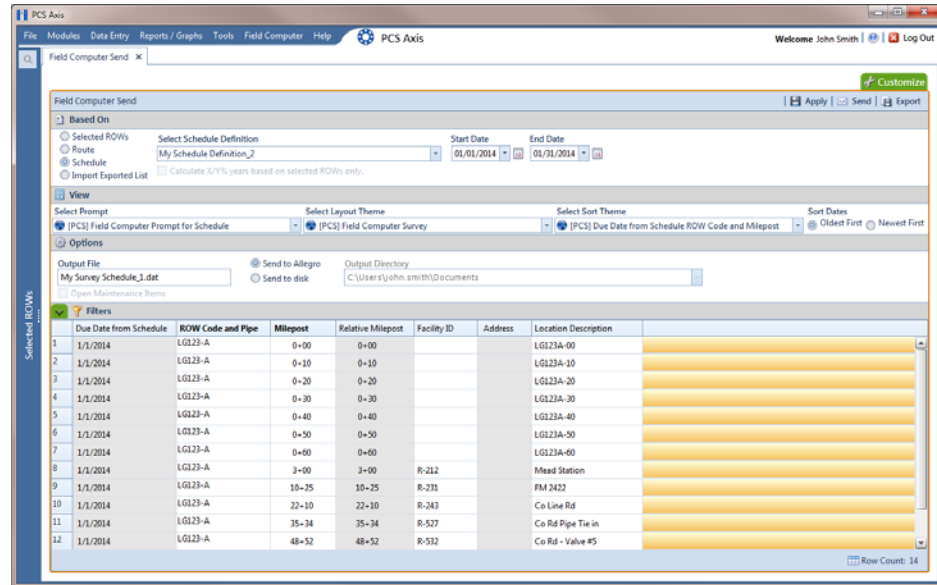

Figure 13-10. Field Computer Send Schedule
- 3 Click **Field Computer** > **Send** to open the *Field Computer Send* window (Figure 13-10, page 571).
- 9 Select a prompt, layout, and sorting theme in the following manner (Figure 13-10):